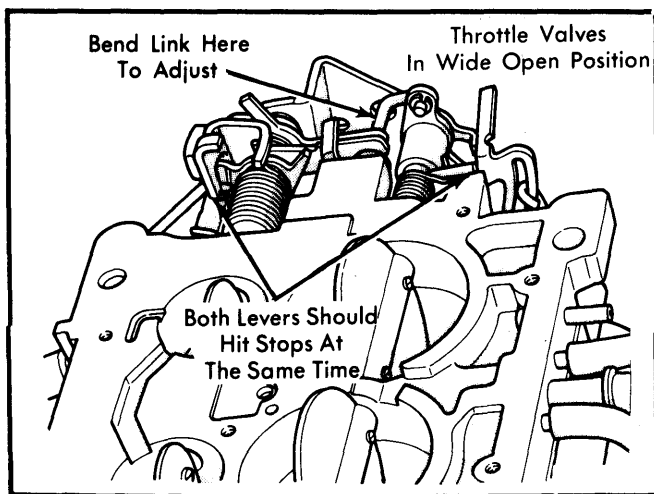

Fig. 3 Adjusting Secondary Throttle Linkage
1) Hold fast idle lever in curb idle position. Turn carburetor upside down. Open throttle valves wide open. See Fig. 3.